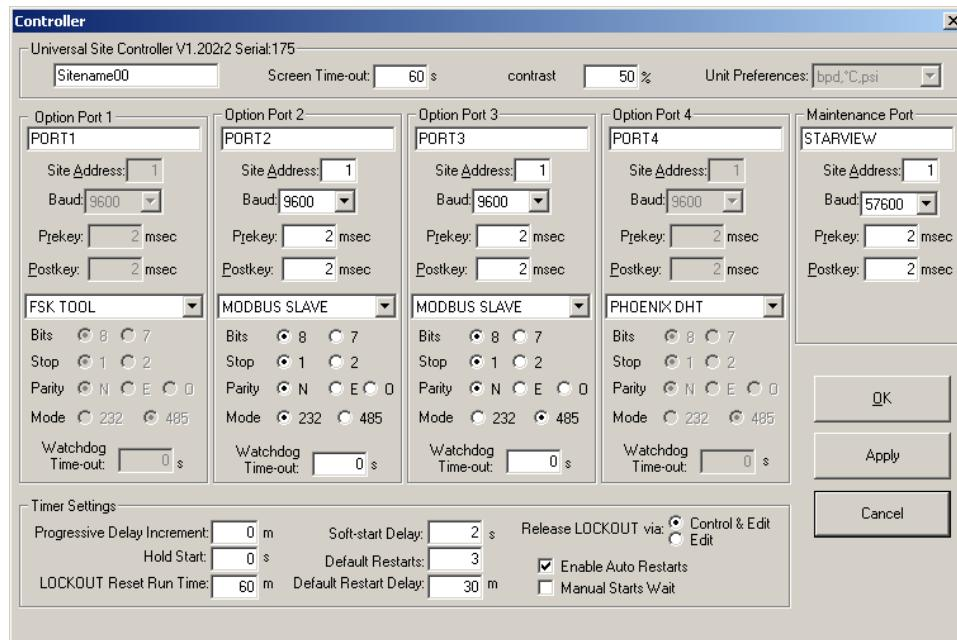

Figure 6-70: Controller Window
3. The controller window will appear in Figure 6-70. Select the Option Port the FIC has been installed into and set the device type to FSK TOOL.